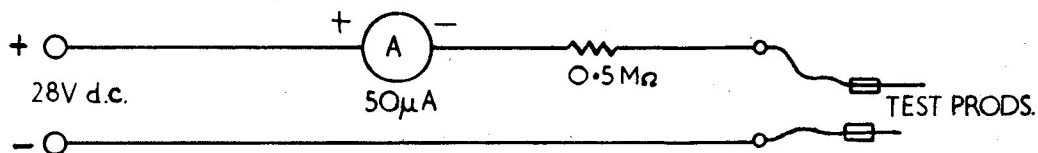

Fig. 6. Insulation test circuit
14. Measure the leakage current using a 0-50 μ A industrial grade ammeter or multi-meter type 12889 with a 0.5 megohm ($\frac{1}{4}$ W) resistor in series with the positive probe as shown in fig. 6. Connect the test circuit (fig. 6) to a d.c. supply variable between zero and 28V. Increase the voltage gradually from zero to 28V. The leakage current should not exceed 1.4 μ A when this voltage is applied between:—